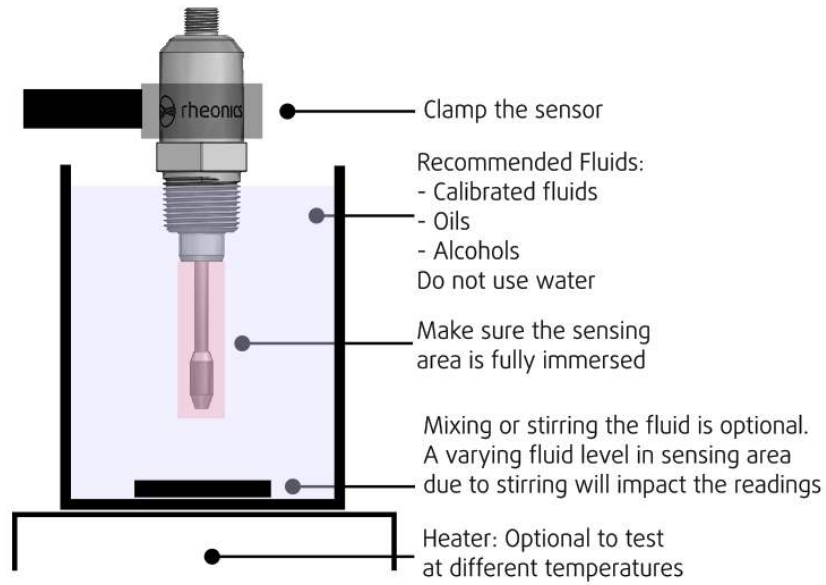

Figure 14: SRV calibration verification setup example.
- Have enough space and fluid to surround the sensor sensing element (red zone in Figure 14). Have fluid level higher than the minimum level required.